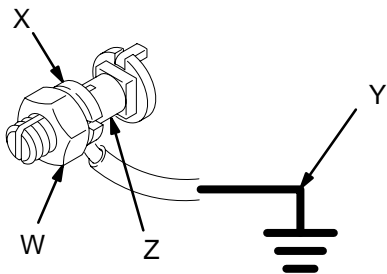

Fig. 2
- **Pump:** Loosen the grounding lug locknut (W) and washer (X). Insert one end of a 12 ga (1.5 mm2) minimum ground wire (Y) into the slot in lug (Z) and tighten the locknut securely. Connect the other end of the ground wire to a true earth ground. See Fig 2. To order a ground wire and clamp, order Part No. 222-011.